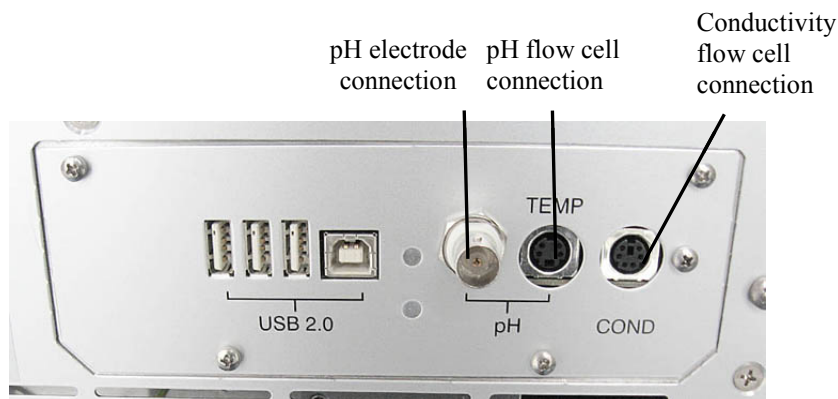

Fig. 6: PCM-3000 connections on the detector rear panel
5. Connect the conductivity flow cell cable (6-pin Mini DIN connector) to the COND port on the detector rear panel (→ Fig. 6); note the arrow that is visible on the upper side of the connector when connected.
6. Connect the pH flow cell temperature sensor cable (4-pin Mini DIN connector) to the TEMP port on the detector rear panel (→ Fig. 6); note the arrow that is visible on the upper side of the connector when connected.